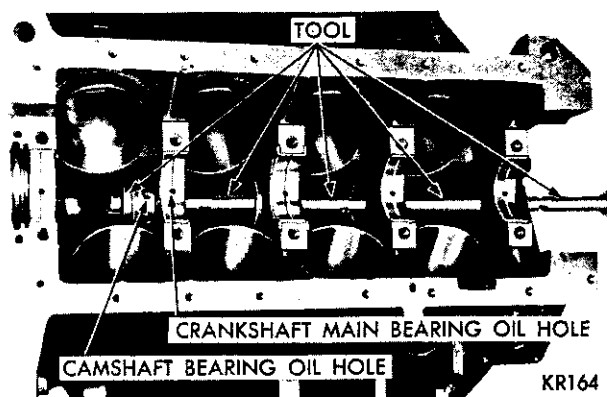

Fig. 25—Removing Camshaft Bearing Using Tool C-3132A
(2) Install proper size adapters and horse shoe washers (part of Tool C-3132A) at the back of each bearing to be removed and drive out bearings (Fig. 25).
(1) Install new camshaft bearings with Tool C-3132A. Place new camshaft bearing over proper adapter.
(2) Position bearing in the tool. Install the horse shoe lock and by reversing removal procedure, carefully drive bearing into place (Fig. 25).
(3) Install remaining bearings in like manner.